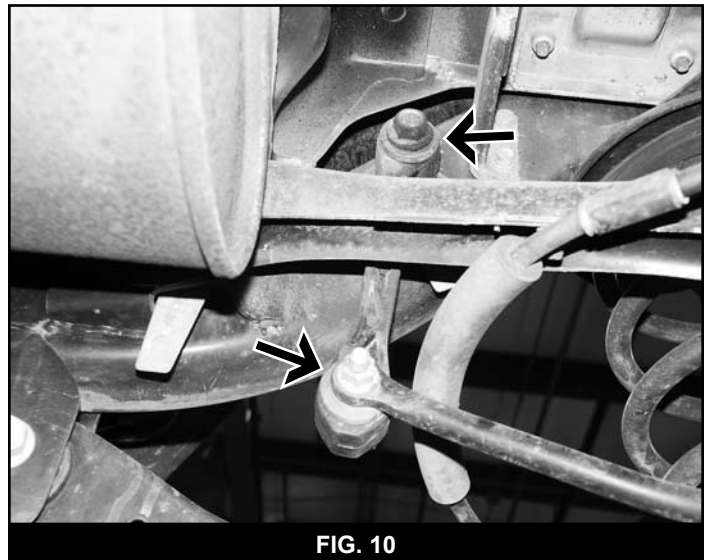

FIG. 10
6. Remove the OE sway bar links (Fig 10). The links will not be reused.